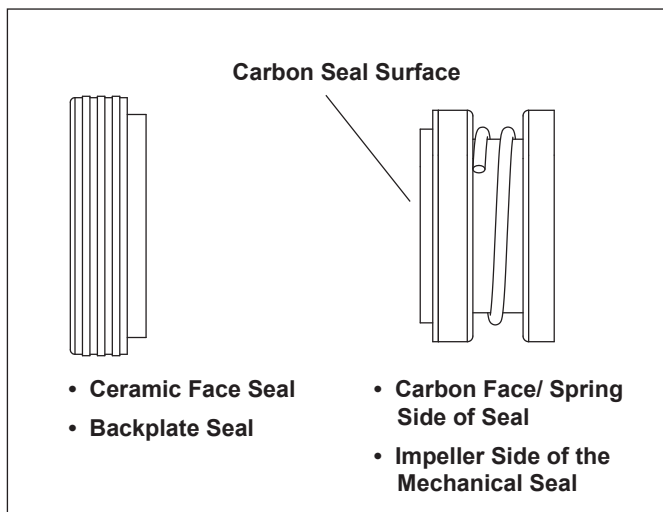

Figure 8. Replace the Mechanical Seal
1. Press the carbon face seal half (see Figure 8) on the motor shaft using a twisting motion. Make sure the carbon surface is facing toward the ceramic ring in the backplate.
2. Remove the carbon face seal half from the motor shaft. (See Figure 8.) This is a spring-loaded seal. Grasp the portion of the seal closest to the impeller body and pull the seal off using a twisting motion.